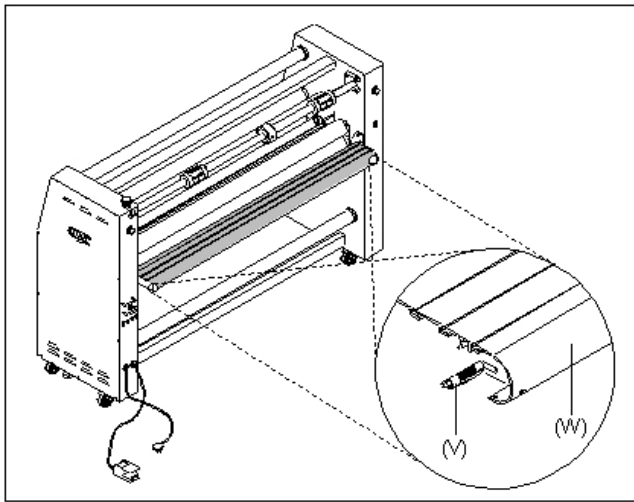

Fig 17
W. REAR TABLE LATCHES: (Figure 17) Located under the left and right sides of the rear table.
X. REAR TABLE: (Figure 17) Provides a working surface when operating the machine from the rear. This table may also be lowered when webbing for roll to roll applications.